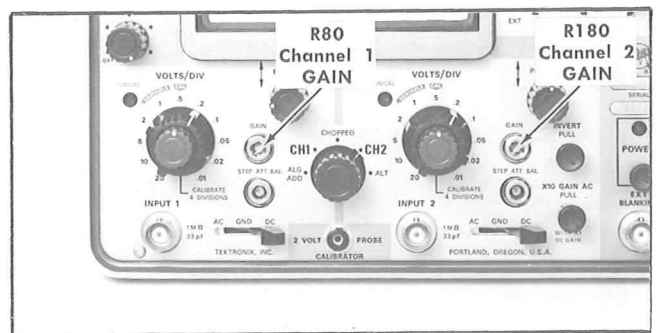

Fig. 5-15. Location of gain adjustments.
f. ADJUST—Channel 1 GAIN adjustment R80 (see Fig. 5-15) for exactly four divisions of deflection.
- i. ADJUST—Channel 2 GAIN adjustment R180 (see Fig. 5-15) for straight line.